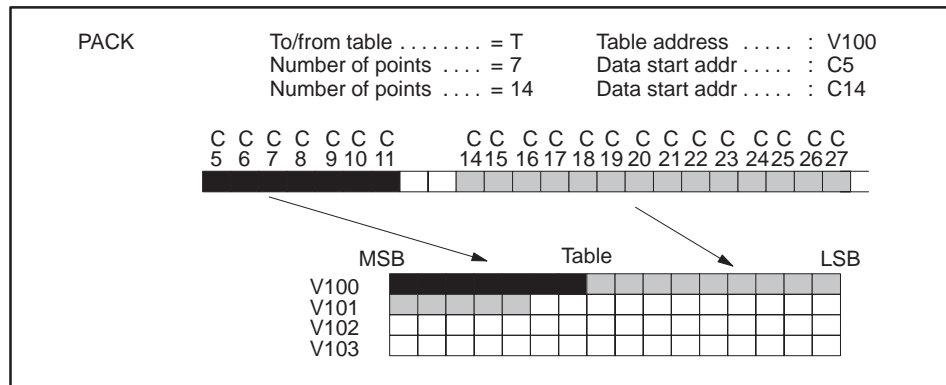

Figure 7-27 Example of PACKing Multiple Blocks of Bits Into Table
- Fields C and D can be repeated for up to 20 writes/reads to and from the table (Figure 7-27).